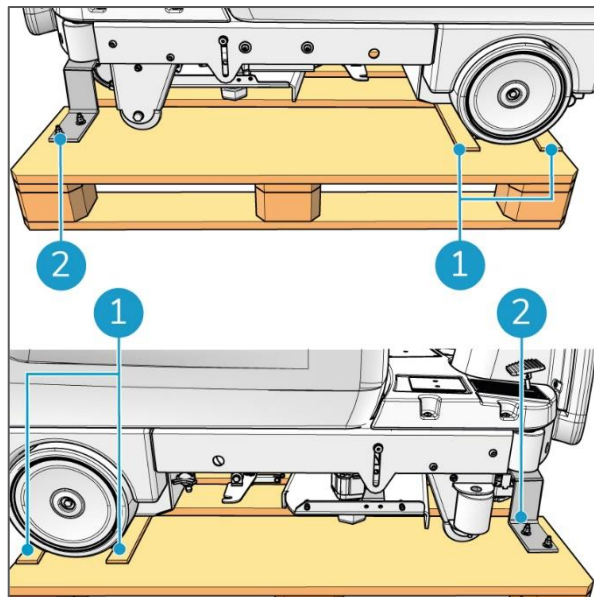

Figure 12
1. Loosen the metal brackets at the front left and right side (Figure 12, pos 2).
2. Remove the two wooden planks that secure the rear wheels (Figure 12, pos 1). The i-drive is now free to be moved from the pallet.